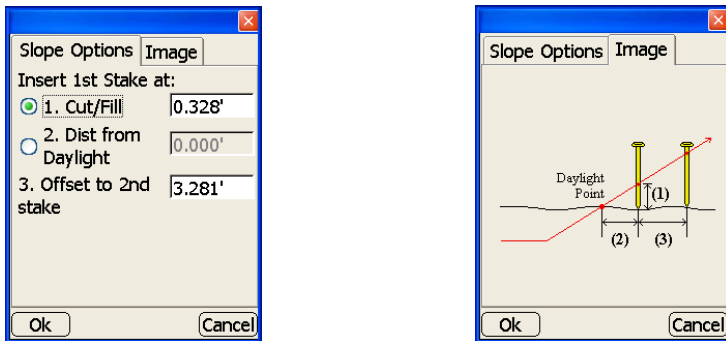

Figure 7-29. Sideslope Options for Slopes
2. On the *Slope Options* dialog box, enter the cut/fill value between the slope and the current position or a horizontal distance that represents the desired distance from the daylight point to the first stake (Figure 7-29 on page 7-23).